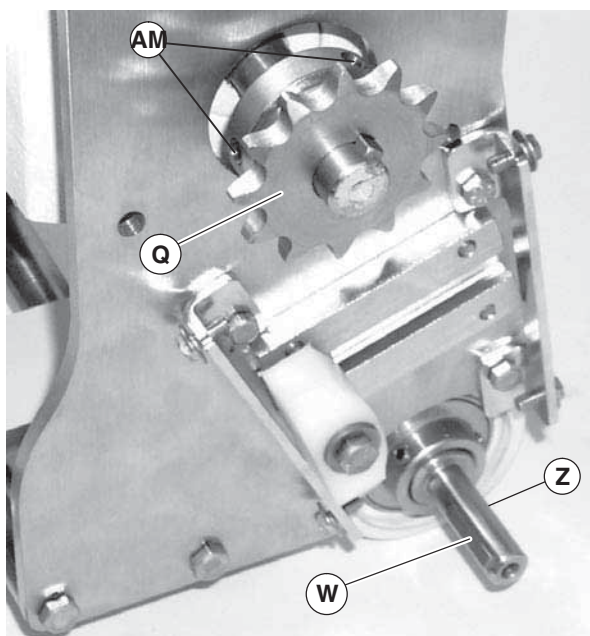

Figure 12
- Install key (Figure 12, item W) into conveyor input shaft (Z).
Depending on sprocket sizes, it may be necessary to remove drive sprocket (Figure 12, item Q) by loosening two set screws (AM) to install chain and sprockets.